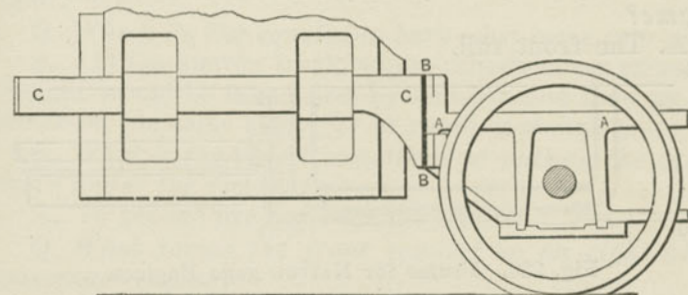

Fig. 219. Frame for Narrow-gage Engines.
*A. That there is not enough room for the fire-box between the frames; and it must be made very narrow, unless the frames are made with an off-set or cross plate projecting outside of the wheels, as shown in Figs. 219*